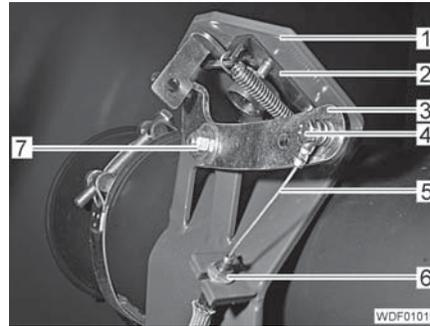

Fig. 339 Locking mechanism of engine hood
- Unscrew the screw (Fig. 339,4).
- Loosen the nut (Fig. 339,6) and pull the Bowden cable forwards out of the mount (Fig. 339,1).